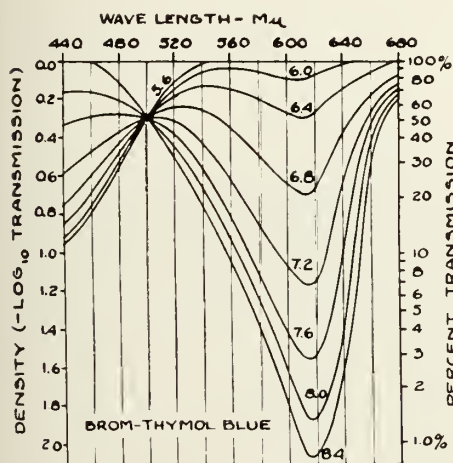

Figure 1
A typical example of the sulphonphthalein colors is Bromthymol Blue, for which the chemical name is dibromothymolsulphonphthalein. It is prepared synthetically from saccharine and thymol by a series of chemical operations. This dye is a bright yellow at pH 5.6, and passes through an infinite gradation of shades of green to a deep blue at pH 8.4. This color transition is shown graphically in Fig. 1. The eye is unable to distinguish the color changes at the extremities of the range, and the usual range is from pH 6.0 to 7.6. Since each indicator visually covers only a narrow pH range, the pH range of a solution is first approximated by the use of a wide range indicator mixture, of which the following is illustrative:
*Step by Step in Color Magic—Figures 1 and 2